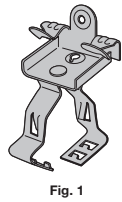

Fig. 1
- Fig. 1 supports 75 lb. static load limit